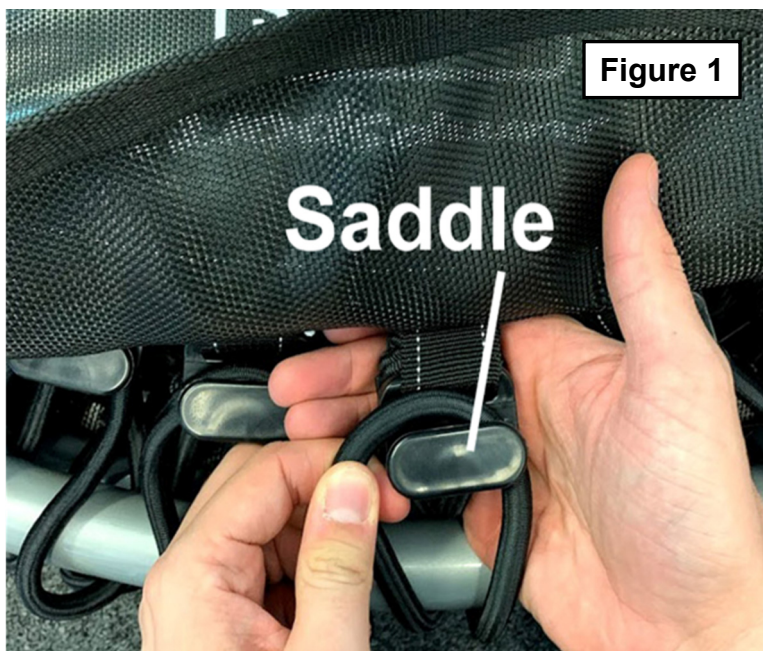

Figure 2
**Step 2:** **WARNING** Make sure both hinge wire locks are in the fully open/unlocked position [Figure 2] if wire locks get pinched between the hinges, (see Figure 3 above), the frame can suddenly snap closed, - serious injury can occur.